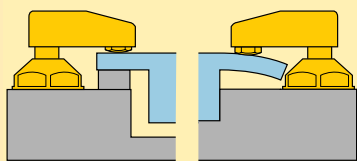

Figure 6: Design guidelines for clamping.
- The workpiece should only be exposed to a clamping force if it is appropriately supported by a solid bearing point, as illustrated in Figure 6.